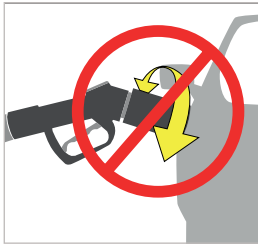

Figure 13
- ▶ Do not rotate the TK17 H₂ with ENR, neither when it is connected nor while it is being removed from the receptacle (*Figure 13*).
Attention: Do not rotate the TK17 H₂ 70 MPa ENR while removing it (Figure 13).